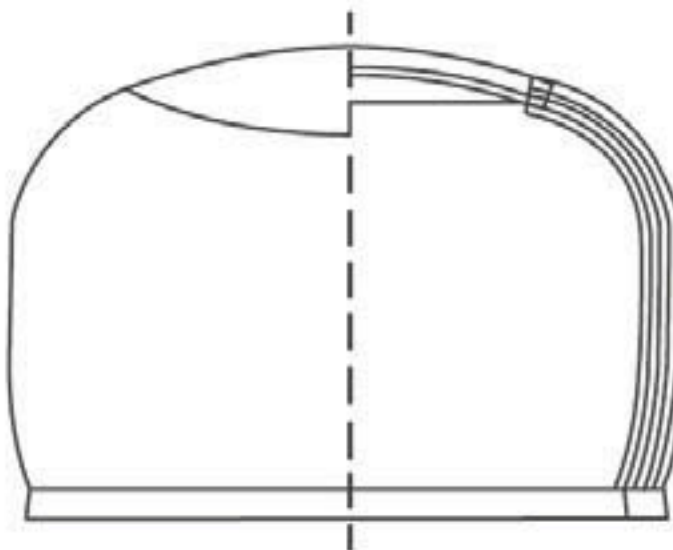

Fig. 44: Wall thickness of a 30 m³ wire-reinforced ferrocement jar
- The base of the tank walls also needs to be thicker for a large tank. For a 30,000 L tank, an additional set of horizontal wire wrapping and an additional layer of cement mortar are added to the bottom 90 cm of the tank (figure 44).